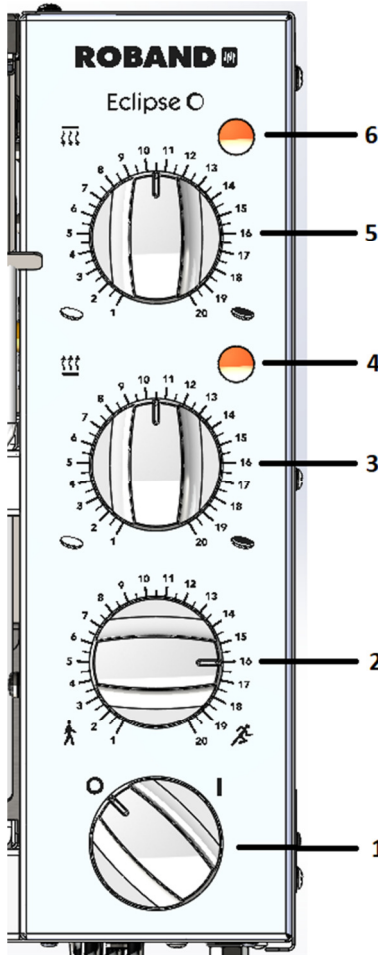

Figure 1 – Control Panel
The elements and conveyor are switched on simultaneously using the main on/off switch, item 1 in figure 1. When the toaster is switched on the pilot lights will illuminate to indicate power is being supplied to the top and bottom elements.
The element power is controlled by each output control, items 3 and 5 in figure 1. The upper and lower elements are controlled individually with these controls.
The conveyor speed controller controls the speed of the conveyor belt, item 2 in figure 1.